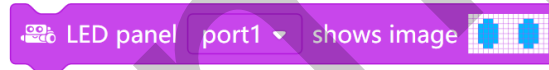

FIGURE 11
15. Select the Looks palette and drag two of the "LED panel shows image" blocks into the programming area. Many blocks in the Looks palette are similar; use the block in Figure 11.